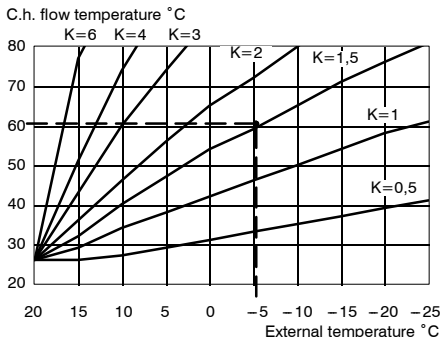
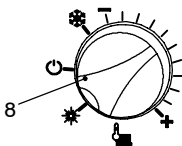

Fig. 7.9
Fig. 7.13
The curves given in the chart of Fig. 7.9 represent the c.h. flow temperature setting as a function of the external temperature measured by the external temp. probe.
The relationship between the external temperature and the c.h. flow temperature is represented by the coefficient K (Fig. 7.9) that can be set between 0 and 6 as hereafter explained.
E.g. to obtain a flow temperature setting of 60 °C when the external temperature is -5 °C, K must be set to 1,5 (dashed line in Fig. 7.9).
After setting the coefficient K, position the knob 8 as shown in Fig. 7.13 in order to obtain the c.h. flow temperature accordingly with the chart of Fig. 7.9.